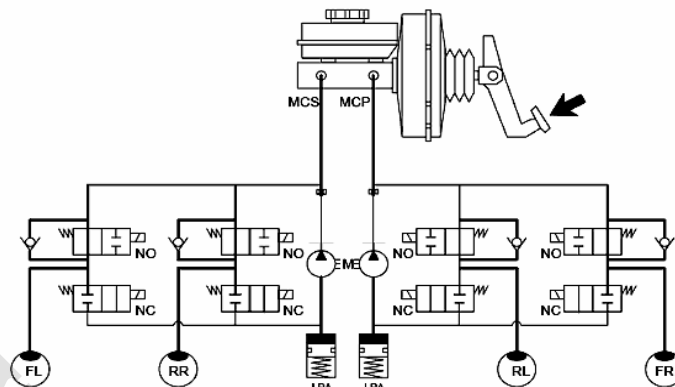

Fig. 3-6
4. ABS operation (pressure increase) condition (Table 3-4 and Fig. 3-6).